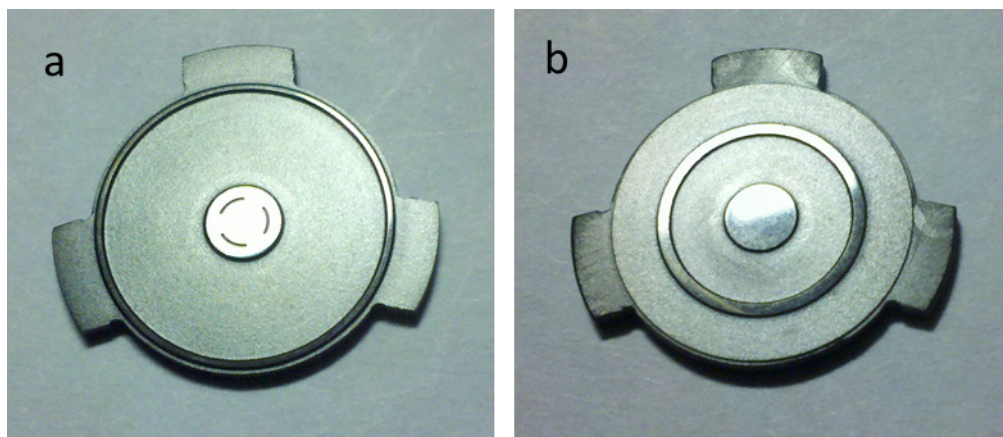

Figure D-8 Rotor Seal Details—Front, Sealing Side (a), and Back, Non-sealing Side (b)
- a. Position the rotor seal so that the sealing side faces out, away from the valve body (Figure D-8).